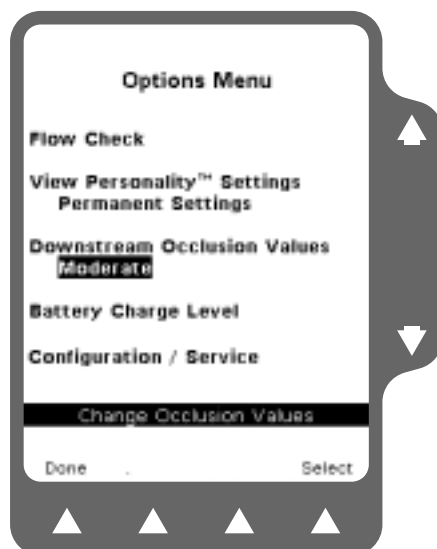

Figure 4-6 Downstream Occlusion Values Setting
3. Use the $\uparrow\downarrow$ keys to highlight the Downstream Occlusion Values setting and then press the **Select** soft key (Figure 4-6).